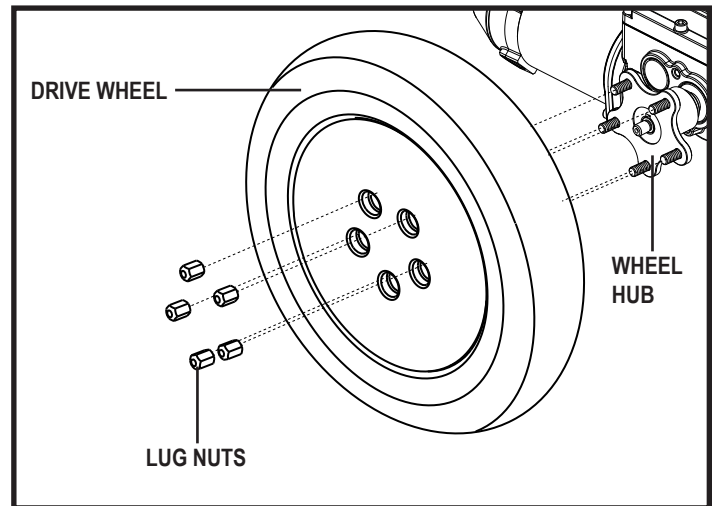

Figure 23. Drive Wheel Removal
See figure 23.
8. Reinstall the five (5) lug nuts onto the wheel hub and tighten. **See figure 23.**